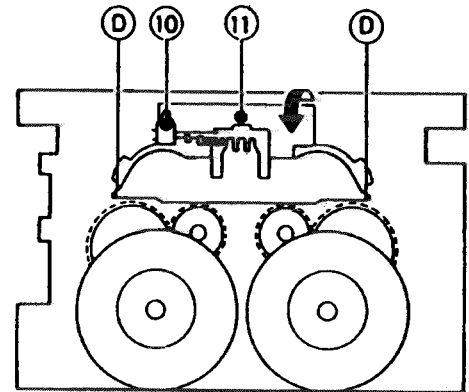

Fig. 2-17
■ Removal of disc unit (See Fig. 2-17)